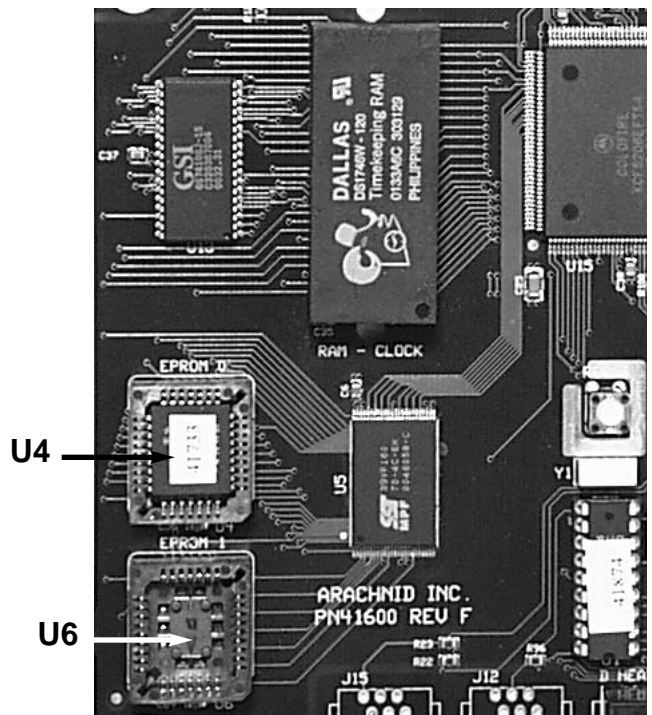

Figure B1 - Mainboard Detail
2. Insert a blank FLASH IC (or a FLASH IC that needs to be updated) into IC socket U6. Make sure that it is in the socket with pin 1 in the proper position. (See figure B1)